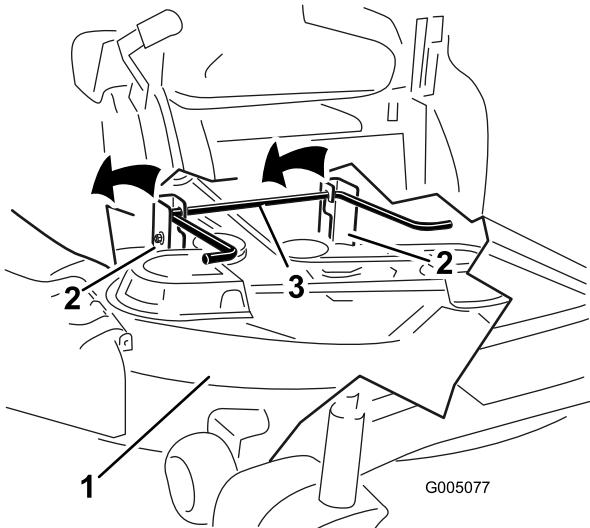

Figure 60
- 5. Lift the mower deck and hanger brackets clear of the rear lift rod, and lower the mower carefully to the ground (Figure 60).
5. Lift the rear of the mower deck and guide the hanger brackets over the rear lift rod (Figure 60).